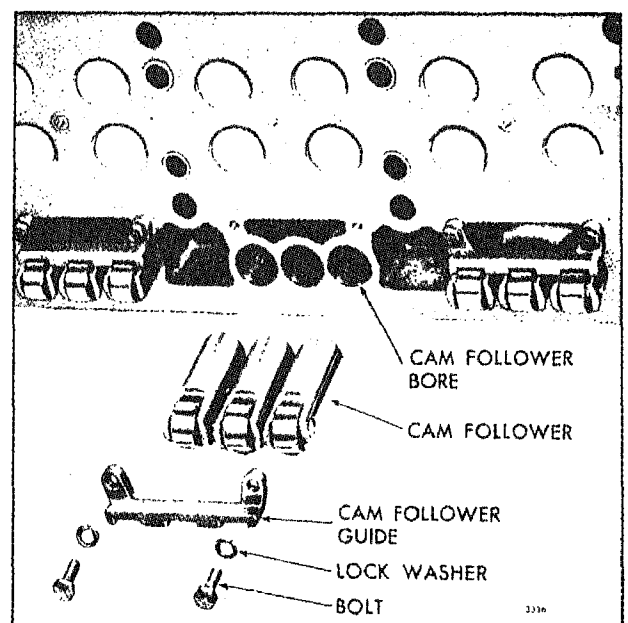

Fig. 2 - Cam Follower and Guide Location
1. Rest the cylinder head on its side and remove the two bolts and lock washers securing the cam follower guide to the bottom of the cylinder head (Fig. 2). Remove the guide.